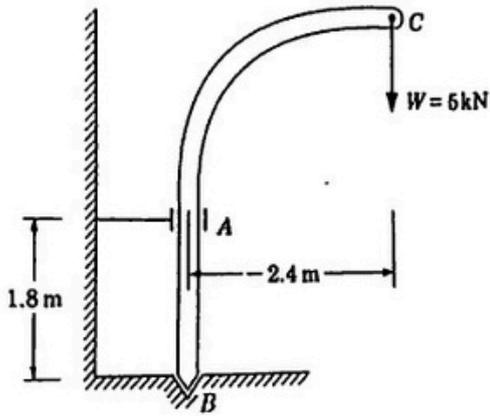

Fig.3.
- Q3 (a) A crane is pivoted at the end B and is supported by a guide at A, as shown in Fig.3. Determine the reaction produced at A and B by a vertical load $W = 5\text{kN}$ applied at C. (5)